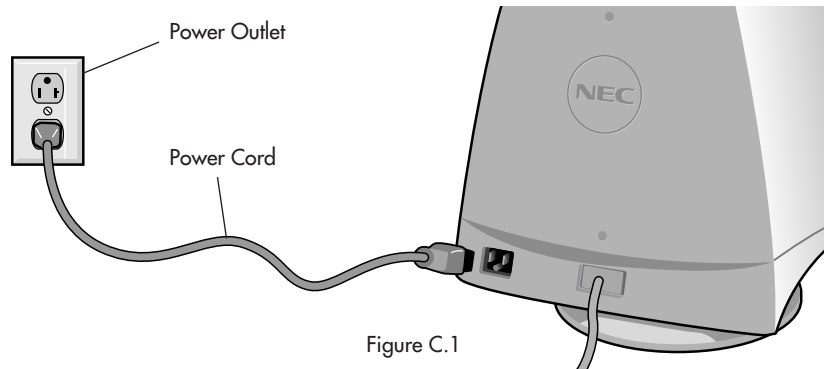

Figure C.1
4. Connect one end of the power cord to the MultiSync monitor and the other end to the power outlet (**Figure C.1**).